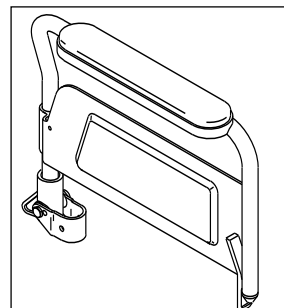

Figure 3
C. FLIP-BACK ARMRESTS (FIG. 3) (OPTIONAL)